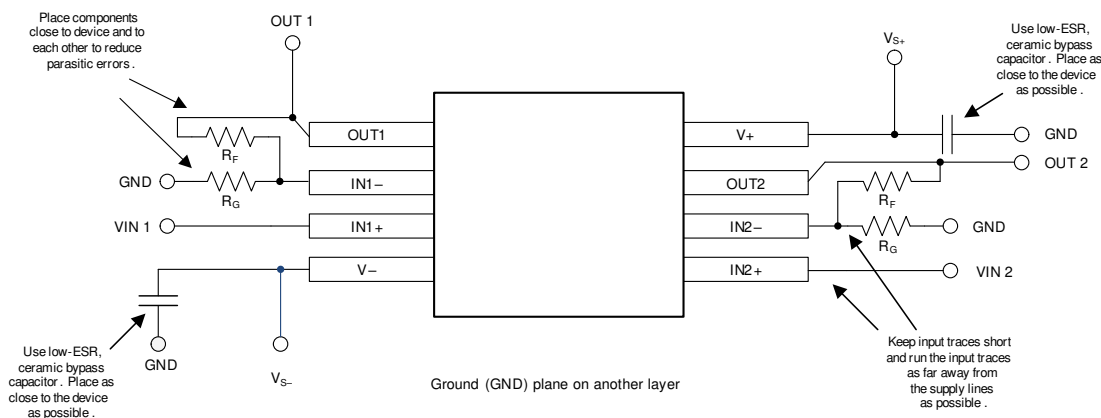

Figure 11-2. Layout Example
- Place the external components as close to the device as possible, as shown in Figure 11-2. Keeping R_F and R_G close to the inverting input minimizes parasitic capacitance.